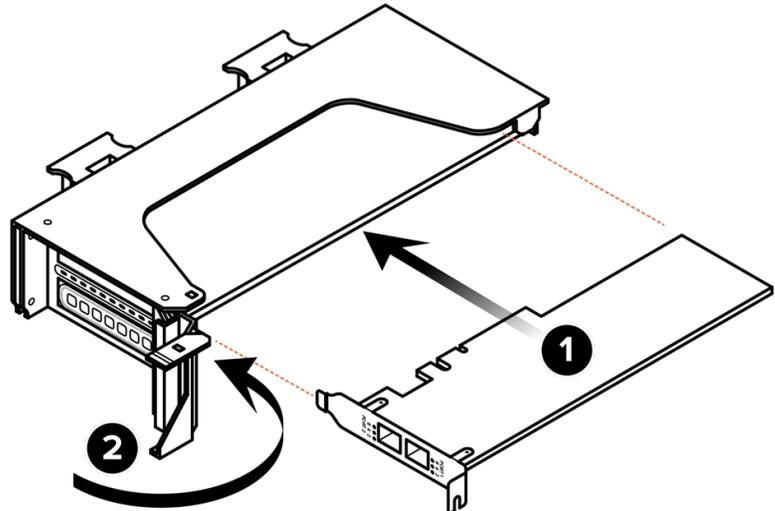

Figure 14-10. Installing a PCIe Card Into Riser 1
1. Carefully install the PCIe card. Make sure that the card is fully seated in its connector and that its front panel is flush with the front panel of the riser. See Figure 14-10.